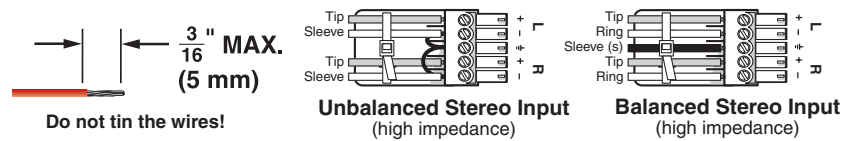
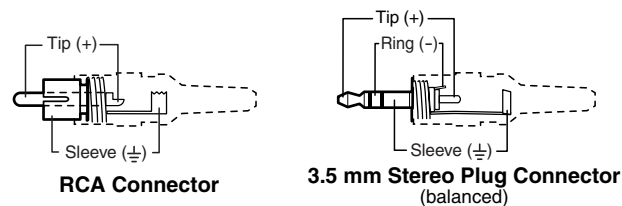

Figure 2-4 — Captive screw connector wiring for audio inputs
Figure 2-5 — Typical audio connectors
- ④ **Connections for balanced and unbalanced audio inputs** — Each input has a 3.5 mm, 5-pole captive screw connector for balanced or unbalanced stereo audio input. Connectors are included with each switcher, but you must supply the audio cable. See figure 2-4 to wire a connector for the appropriate input type and impedance level. Use the supplied tie-wrap to strap the audio cable to the extended tail of the connector. High impedance is generally over 800 ohms.
NOTE See figure 2-5 to identify the tip, ring, and sleeve parts of the connector when you are making connections for the switcher from existing audio cables. A mono audio connector consists of a tip and sleeve. A stereo audio connector consists of a tip, ring, and sleeve. The ring, tip, and sleeve wires are also shown on the captive screw audio connector diagrams, figure 2-4 and figure 2-6.